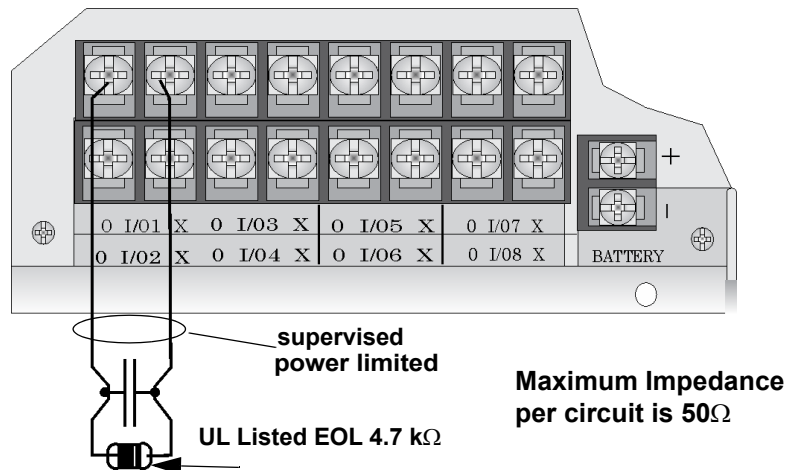

Figure 4-34 Class B Input Switches
- Wire the Class B switch as shown in Figure 4-34.